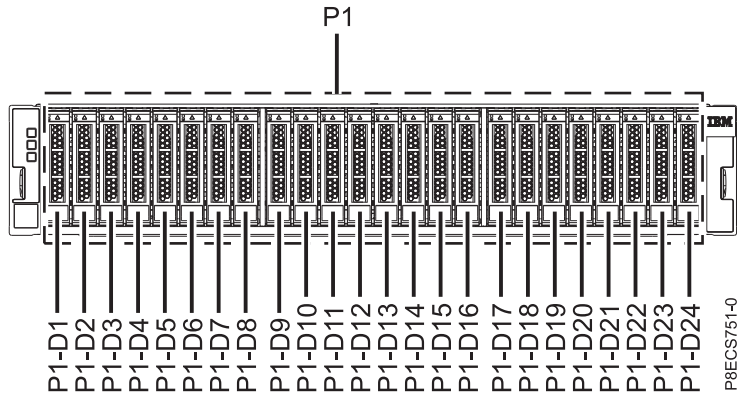
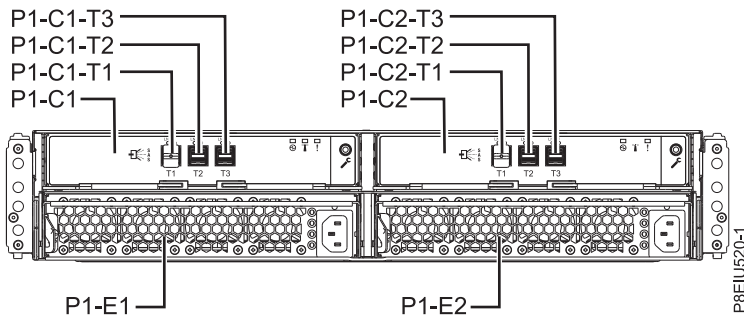
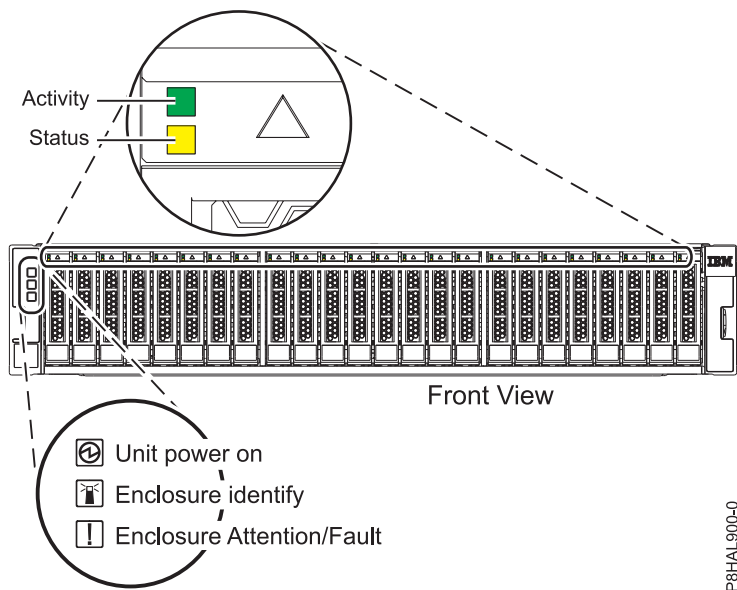

Figure 36. Front view of the ESLS storage enclosure showing the drive locations
Figure 37. Rear view of the enclosure
Figure 38. Front view of the ESLS storage enclosure showing the service indicators
5. Identify the part and the enclosure that you want to service. The disk drive and SSD slots are located in the front of the enclosure. Figure 36 on page 33 shows the front of the ESLS storage enclosure, Figure 37 on page 33 shows the rear view of the storage enclosure, and Figure 38 on page 33 shows the locations of the service indicators for the enclosure.